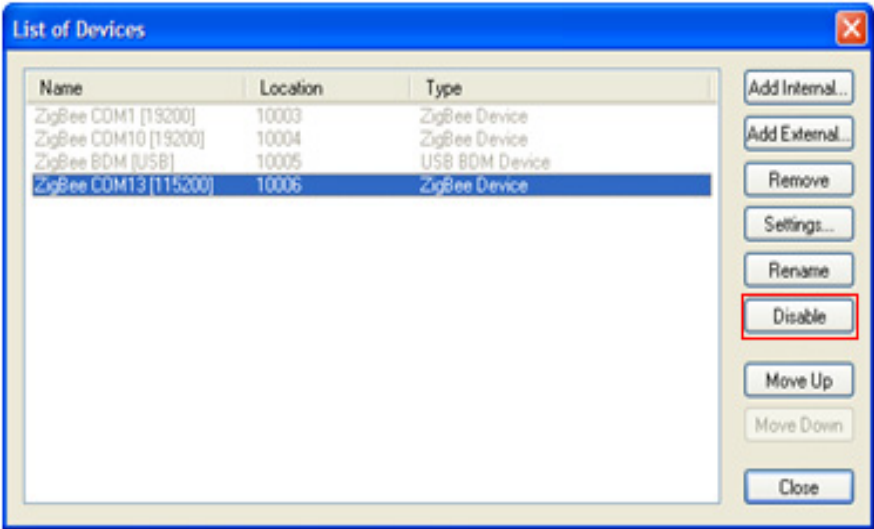

Figure 7-5. Disable Unused Devices
- The List of Devices window appears again as shown in Figure 7-5. Disable all connections except the SZTC connection that was just created by highlighting the connection to be disabled and clicking on the Disable button. The disabled connections are should now be grayed out.